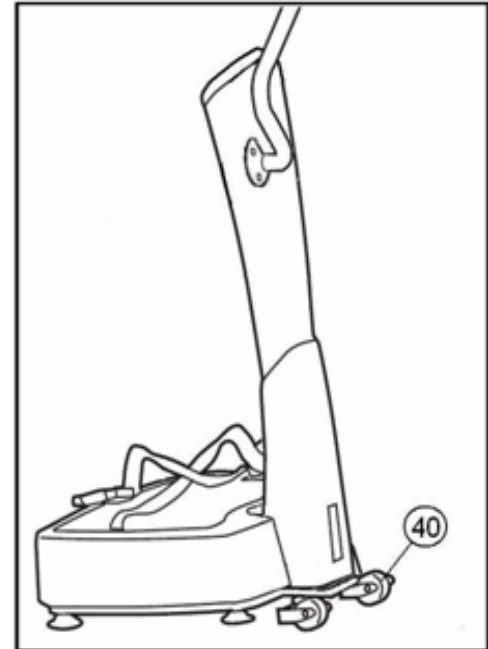

Fig. 6
The unit is equipped with wheels (40), **Fig.6**, to make it easier to move. Make sure that the power cord is unplugged from the wall socket. To prevent accidents **DO NOT** move the platform across uneven floors.